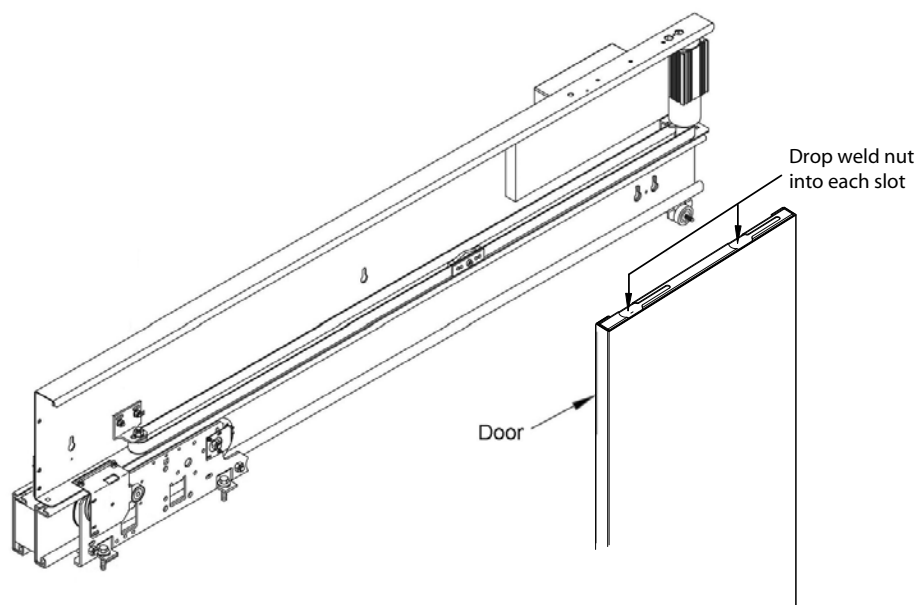

Figure 41 Install Car Doors
2. Position the fast door on top of the sill. Drop a weld nut 103685 into each of the two slots on the top of the car door. Secure the door the hanger using two hex head bolts (3/8"-16 x 1") with a lock washer and a flat washer for each bolt (on the head side). See Figure 41.